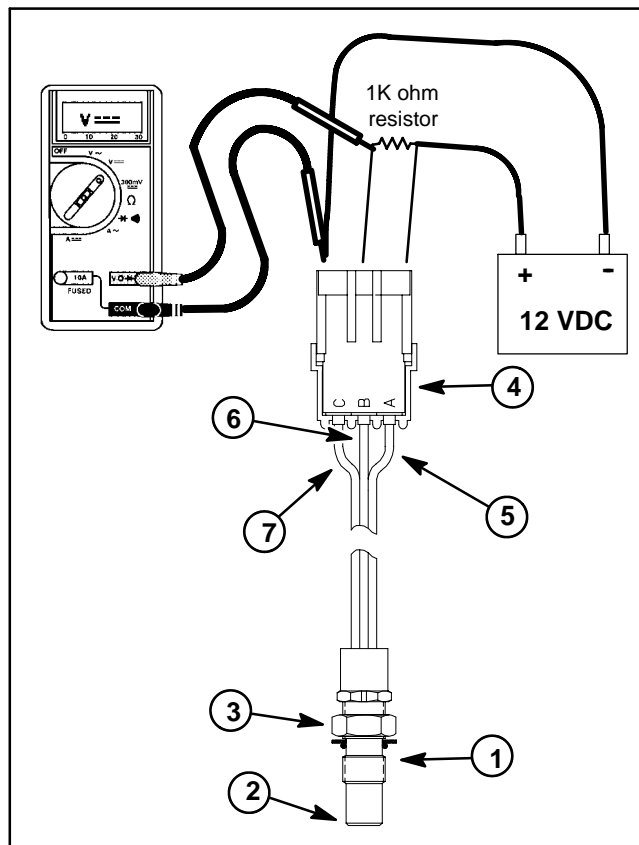

Figure 30
2. Using a +12 VDC battery, a multimeter, a 1K ohm resistor and appropriate jumper wires, connect the battery and multimeter to the speed sensor using Figure 30 as a guide.